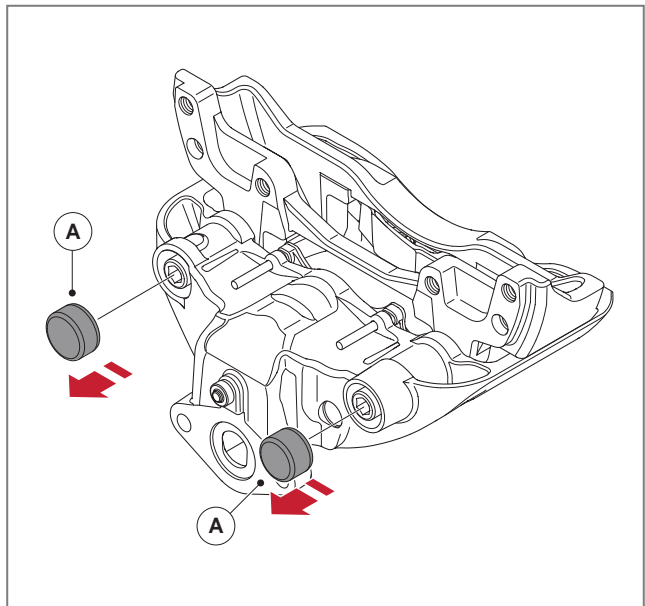

Fig. 56 - Removing the protective caps
2. Use a small hammer and chisel to remove the protective caps (A) from the fixed and floating bearing, see ► Fig. 56. The protective caps must not be re-used.